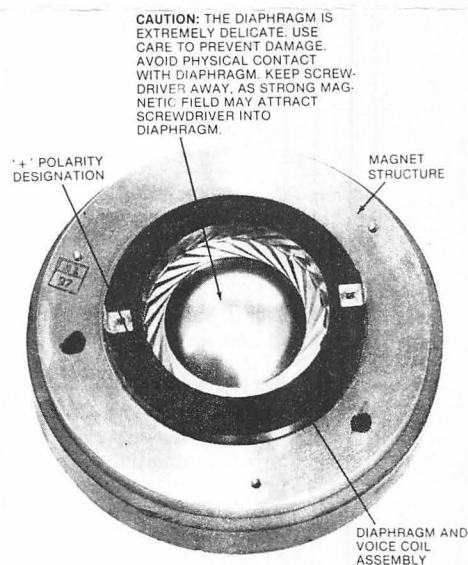

Figure 4. Diaphragm and Voice Coil Assembly
6. Carefully work diaphragm and voice coil assembly free. Remove assembly (see Figure 4).